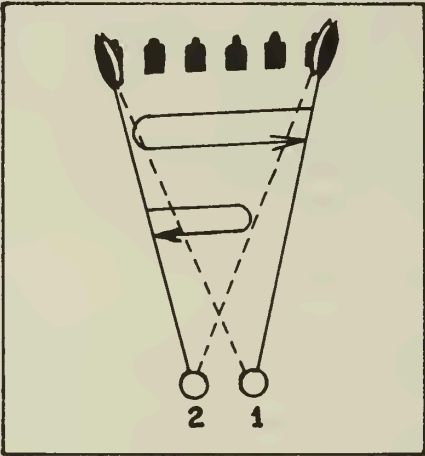

Figure 109. --Engaging a Wide Target Requiring No Division.
a. General. --Machineguns are employed by squads whenever the situation and terrain will permit. The fire of the squad must be distributed over the entire target. Improper distribution of fire results in gaps between beaten zones and incomplete target coverage. Complete target coverage must be ensured even if one machinegun team of the squad should be knocked out. To accomplish this, each gun distributes its fire over the entire target when engaging all but extremely wide targets. To provide faster coverage of such wide targets, those greater than 50 mils in width are usually divided. The method of division is dependent upon the density of the particular target. (See figs. 109 and 110.)